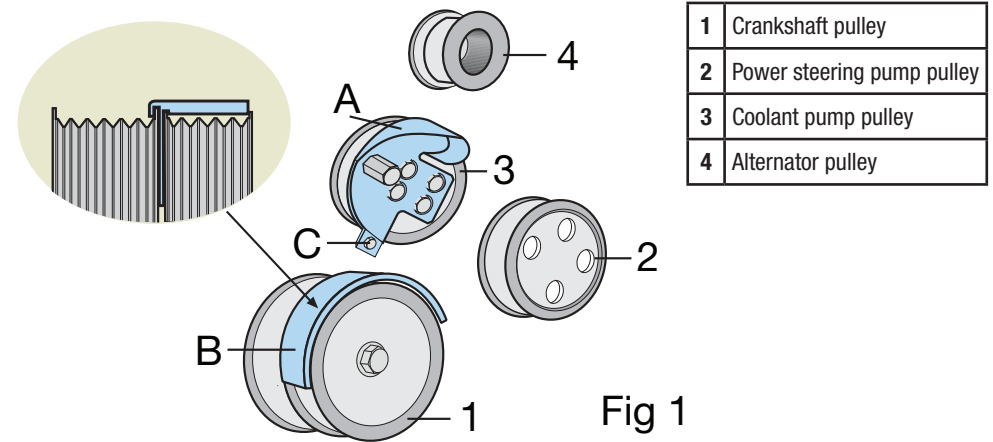

Fig 1
- Refer to Fig 1: Locate installation tool (A) over coolant pump pulley (3). Securing bracket (C) is located behind coolant pump pulley and then tightened.
- Locate drive belt guide tool (B) over crankshaft pulley (1) and rotate so that top centre of guide tool is at 12.00 o'clock. (Refer to Fig 1.).